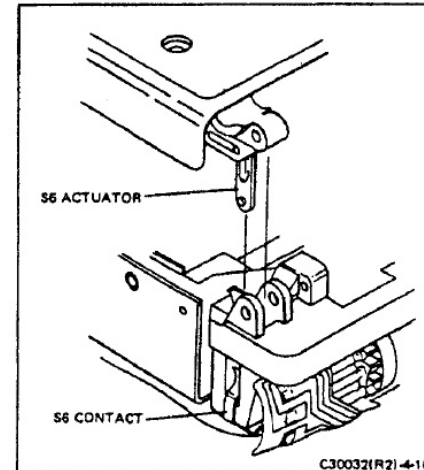

FIGURE 4-16 LOCATION OF S6 ACTUATOR LINK
- Lower the housing so that the free-hanging actuator passes through the cutout in the inner-frame assembly toward the S6 contacts (see Figure 4-16).